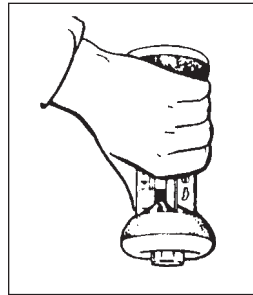

Figure 2
2. Invert FYRITE (Fig. 2). Hold at slight angle to drain fluid into top reservoir.
2. Invert FYRITE (Fig. 2) to absorb O₂ drawn into FYRITE whenever Plunger Valve is depressed). Hold at slight angle to drain fluid into top reservoir.